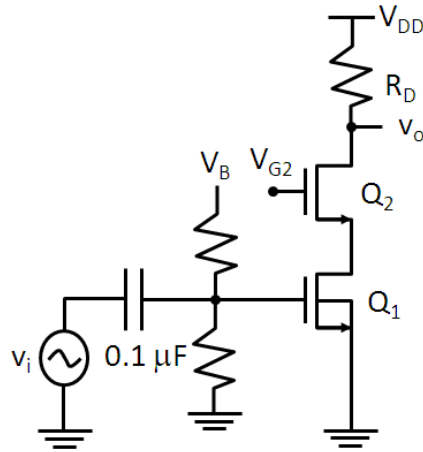

Fig. 5: The cascode amplifier.
1. Combine the common-source and common-gate stages to build a cascode amplifier (Fig. 5) on your breadboard. The gate bias of the CS stage is 2.0 V. Please adjust the gate bias of the CG stage to achieve the same DC current as that with the CS stage. The applied V_{DD} is 5 V and the load R_D is the same as that used in A-1. Measure the drain-source voltage drops for both stages. Make sure both transistors are in the saturation region. You can adjust V_{DD} if one of the transistors enters the linear region, but the drain current should be kept the same.